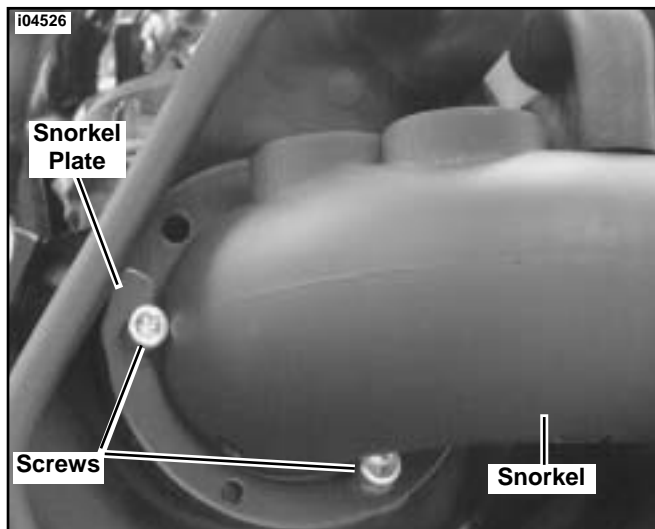

Figure 5. Remove Snorkel Plate and Snorkel (All)
6. See Figure 5. Remove two screws and snorkel plate. Remove snorkel. Save screws and snorkel plate.
- Refer to Figure 5. Obtain new Snorkel from kit. Apply LOCTITE 243 to threads of screws saved in Step 6 and align and install snorkel plate and snorkel to backplate. Tighten screws to 6-8 ft-lbs (8.1-10.8 Nm).